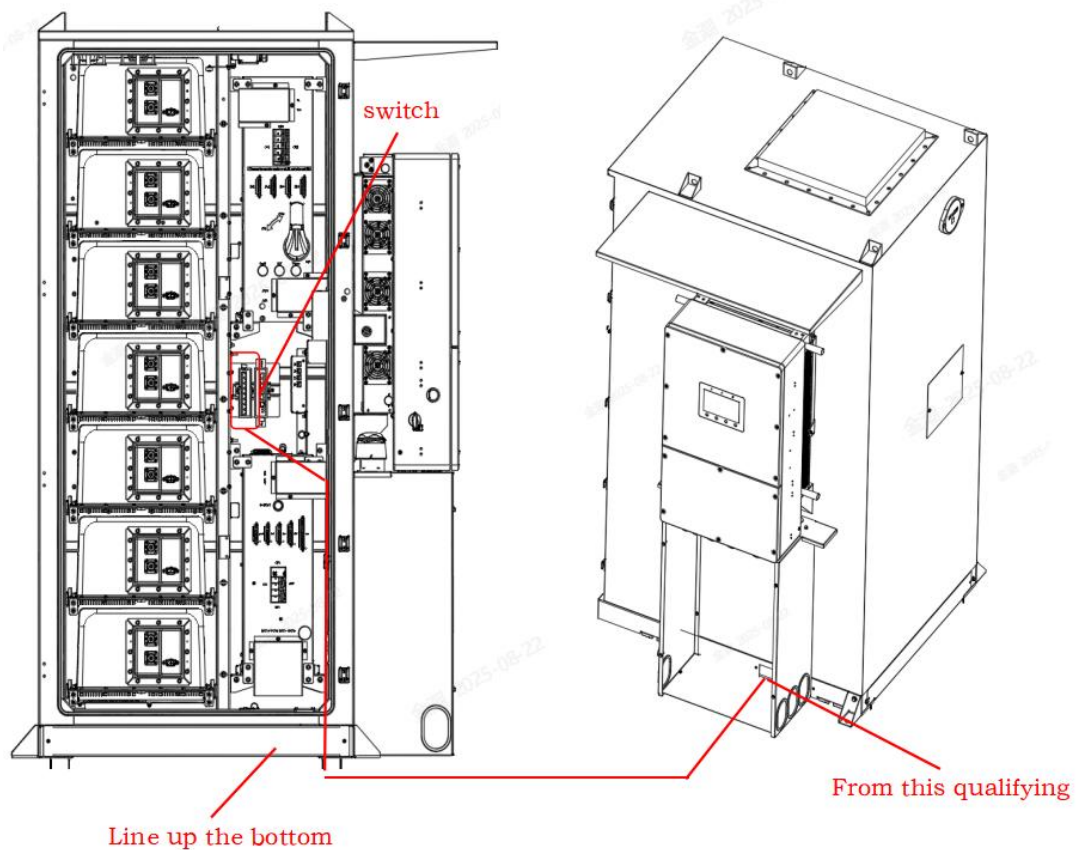

Figure 5-24 Switch communication cable diagram
1. The on-site Ethernet cable should be connected to the Ethernet port of the battery cabinet switch. The switch port can be wired arbitrarily, and there is no fixed position requirement. Follow the connection method shown in Figure 5-24. The following is the interface definition.